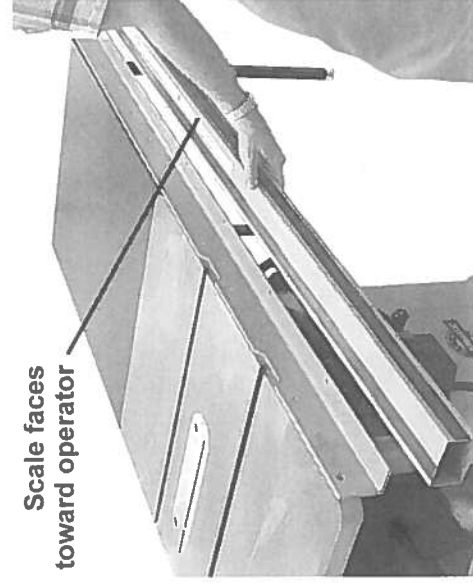

Figure 12
1. The guide tube mounts to the front rail with the scale facing toward the operator (Figure 12). Align the holes in the bottom of the guide tube with the holes in the front rail. When properly positioned the guide tube should extend beyond the front rail about 6" in both directions.